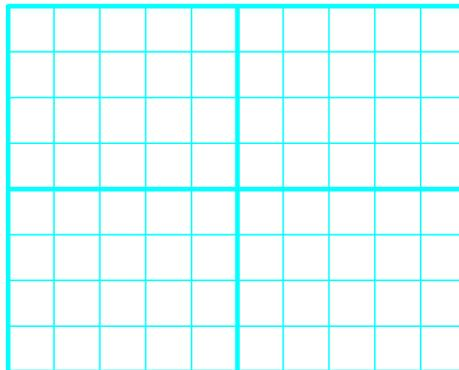

Figure 6.14 *Signal waveforms at pins 2 and 6 of the op-amp*
- 4.2. Observe and draw waveforms at pin 2 (input) and pin 6 (output) of the op-amp in Figure 6.14 of the Lab Measurement Sheets.